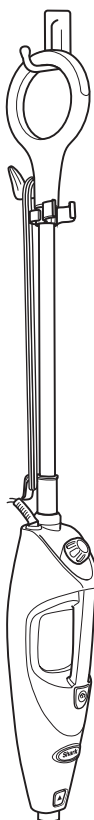

fig. 16
- 5** To store the **Shark® Multi-Function Steam Pocket® Mop Lite** hanging up, first remove the head (after it has cooled and the steam has been released) then hang on a large hook. **(fig. 16)**